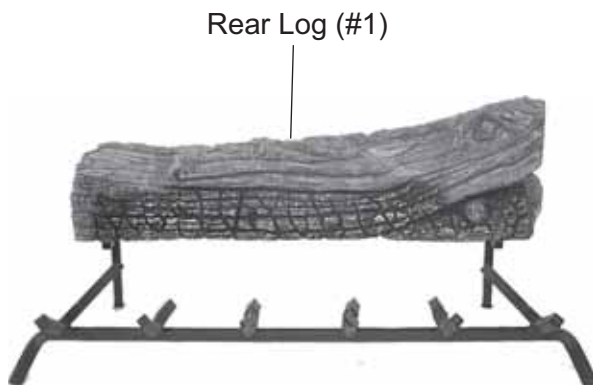

Figure 85 - Placing Rear Log (#1) on Back of Grate
2. Place Back Log #1 on back of grate. *See Figure 85.*